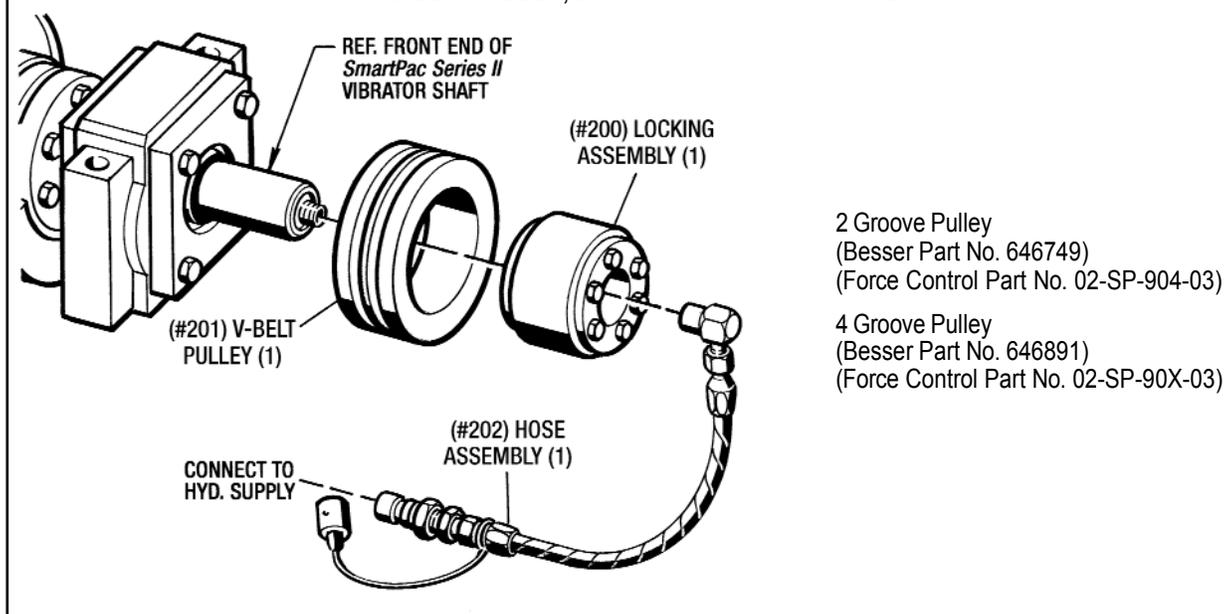

Figure 8.3 - V-Belt Pulley and Hose Assembly Kit
(See Figure 8.3)
2. **Complete Piston Assembly Kit** is shown on Figure 8.3.